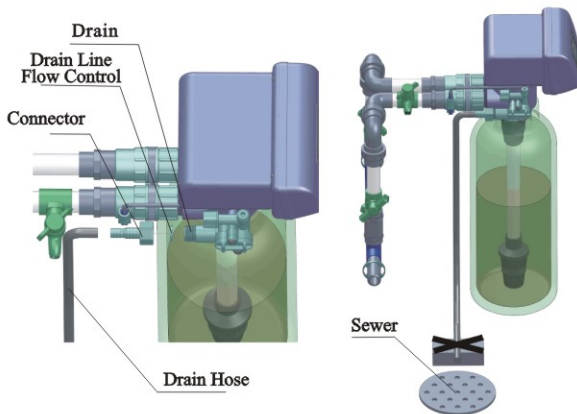

Figure 1-4
a. As the Figure 1-4 shows, slide the drain hose connector into drain outlet.
d. Locate the drain hose well as the Figure 1-4 show.